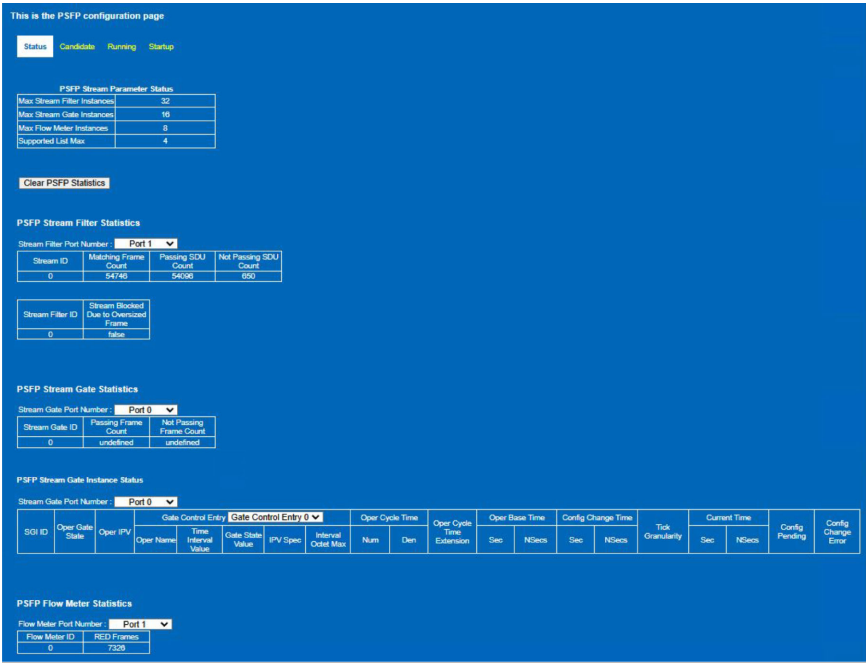

Figure 151. PSFP Status View
The **Status** page (see Figure 151) shows statistics for the PSFP functionality. For the stream filter, there are a number of statistics captured and available to read for a number of parameters. PSFP statistics have an associated errata as shown in the **Silicon Anomaly** topic included in the ADIN6310 data sheet.
- ▶ A count of frames that passed the maximum SDU size filter (see the **Passing SDU Count** column in Figure 151).
- ▶ A count of frames that did not pass the maximum SDU size filter (see the **Not Passing SDU Count** column in Figure 151).
- ▶ Whether the stream is blocked because of oversized frame (see the **Stream Blocked Due to Oversized Frame** column in Figure 151).
- ▶ A count of frames that were discarded as a result of the operation of the flow meter (see the PSFP Flow Meter Statistics section in Figure 151).